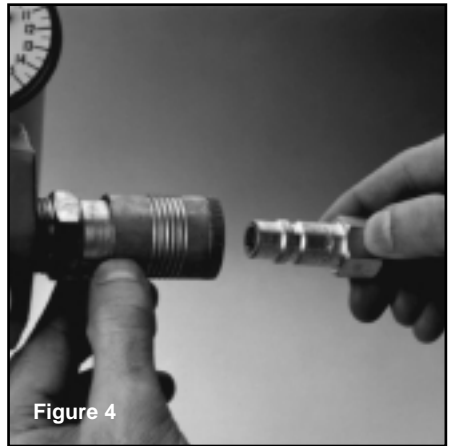

Figure 4
- Connect the respirator's MSHA/NIOSH approved air supply hose(s) to the quick-disconnect outlet coupler(s) on the pump (see Figure 4).